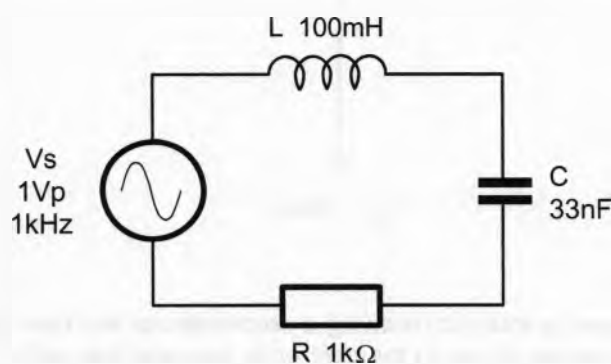

Figure 15
1. Calculate the inductor's reactance in the circuit of Figure 15.